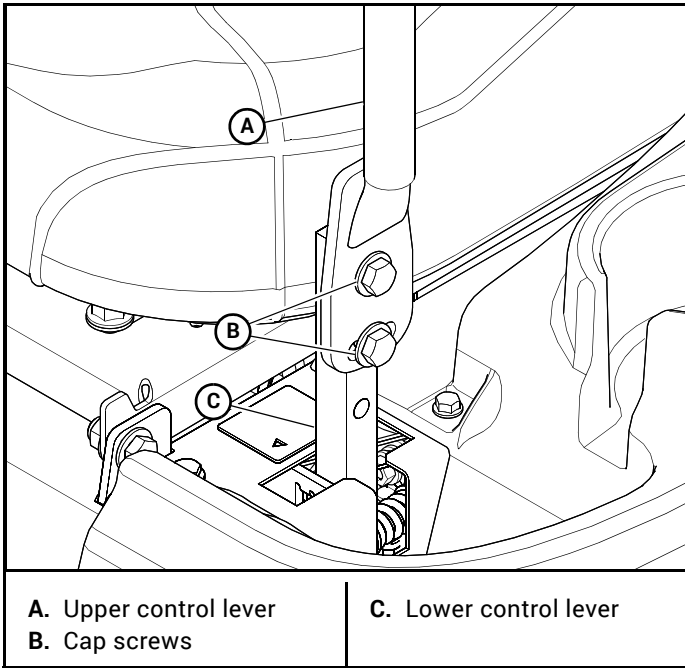

Figure 4-20
- To pivot the upper control levers forward or rearward, loosen the cap screws that attach the upper control lever to the lower lever. Then, pivot the upper control lever. Tighten the cap screws. Figure 4-20